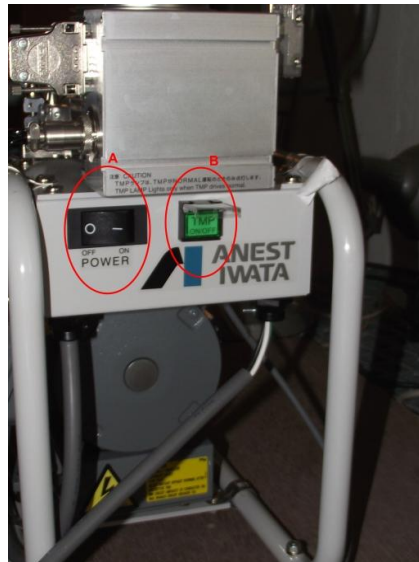

Figure 2: Pump controls:
2. Switch Button A ON to start the scroll pump (see figure 2).
4. Switch Button B ON to start the turbo molecular pump (see figure 2).